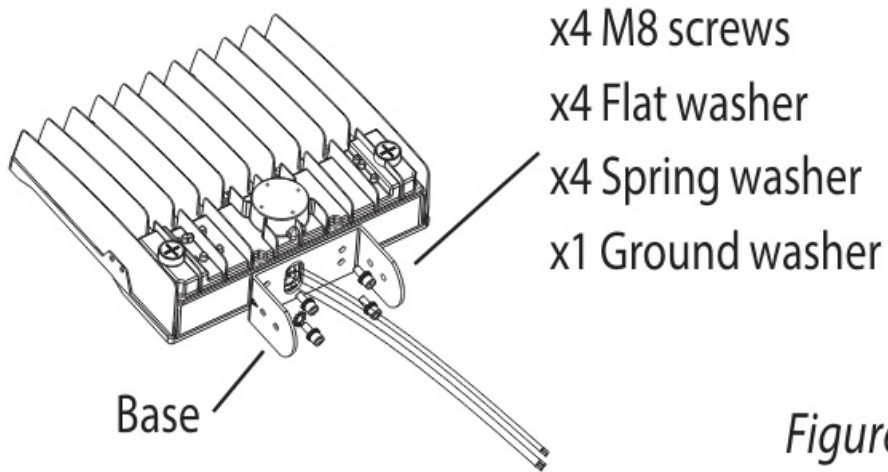

Figure 2
2. Run the input wire through the hole in the trunnion base (watch out not to scratch the wire). Affix the base with screws and lock to the fixture. (Figure 2)